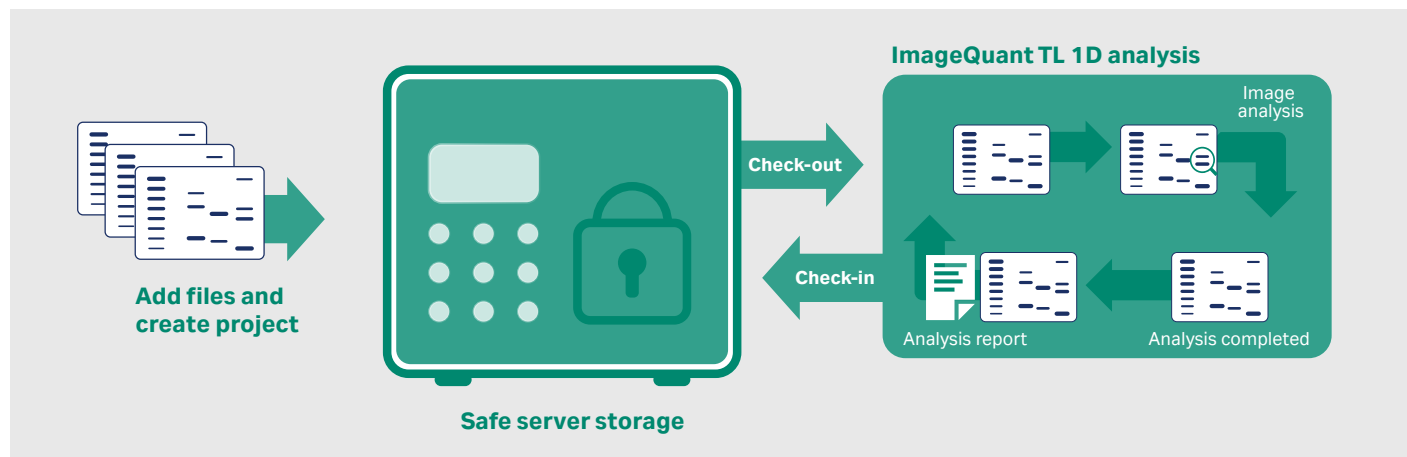

Fig 17. Client-server data archiving process in ImageQuant TL GxP version.
- Client-server based data protection for safe archiving of data in a secure folder (Fig 17),